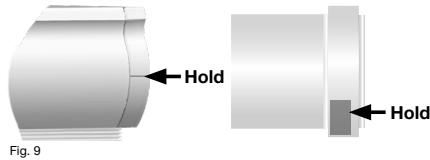

Fig. 9
1. Press and hold the program button on the headrail/motor end. The LED will flash green then amber (about seven seconds). When the shade jogs once, release the button and the LED will turn solid amber and turn off. The motor is now ready to be associated to a new remote. (Fig. 9)